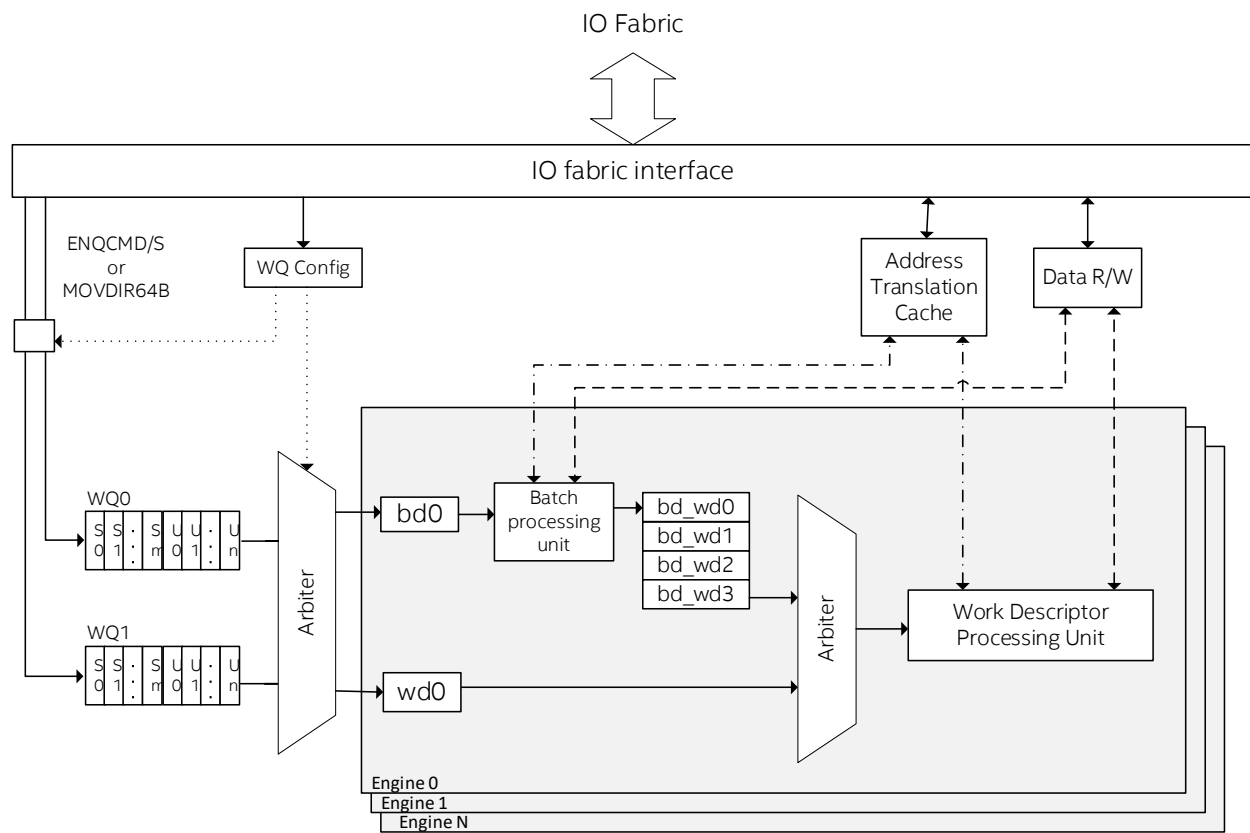

Figure 3-1: Abstracted Internal Block Diagram of Intel® DSA
Figure 3-1 illustrates the high-level blocks within the Intel DSA device at a conceptual level. Intel DSA uses the I/O fabric interface for receiving downstream work requests from clients and for upstream read, write, and address translation operations. Intel DSA includes configuration registers, Work Queues (WQ) to hold descriptors submitted by software, arbiters used to implement QoS and fairness policies, processing engines, an address translation and caching interface, and a memory read/write interface. The batch processing unit processes Batch descriptors by reading the array of descriptors from memory. The work descriptor processing unit has stages to read memory, perform the requested operation on the data, generate output data, and write output data, completion records, and interrupt messages.